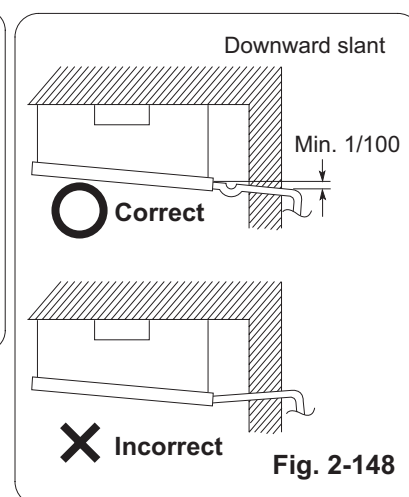

Fig. 2-148
- (3) Ensure the drain pipe has a downward slant (1/100 or more). (See the Fig. 2-148)
- (4) The drain pipe with a trap should be installed away from the indoor unit.
- (5) Do not forcibly install the drain pipe to the indoor unit tubing.